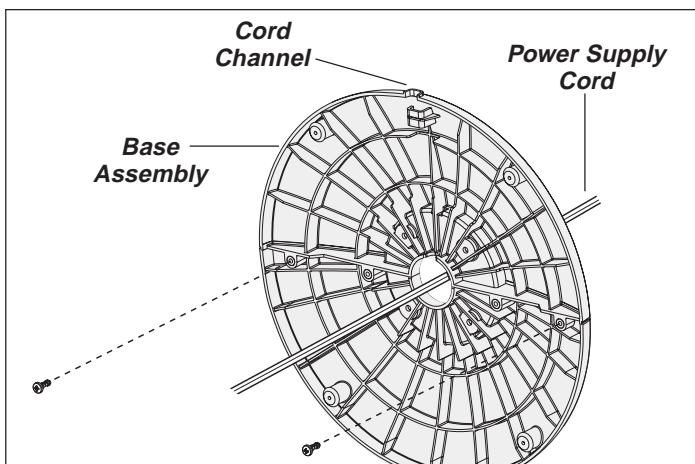

Figure 4
- Secure the Base halves with (2) M4 X 13mm Screws. Thread the **Power Supply Cord** through the large hole in the **Base Assembly**. **NOTE:** The **Cord Channel** on the bottom of the **Base** should be towards the back of the Heater. (Figure 4)